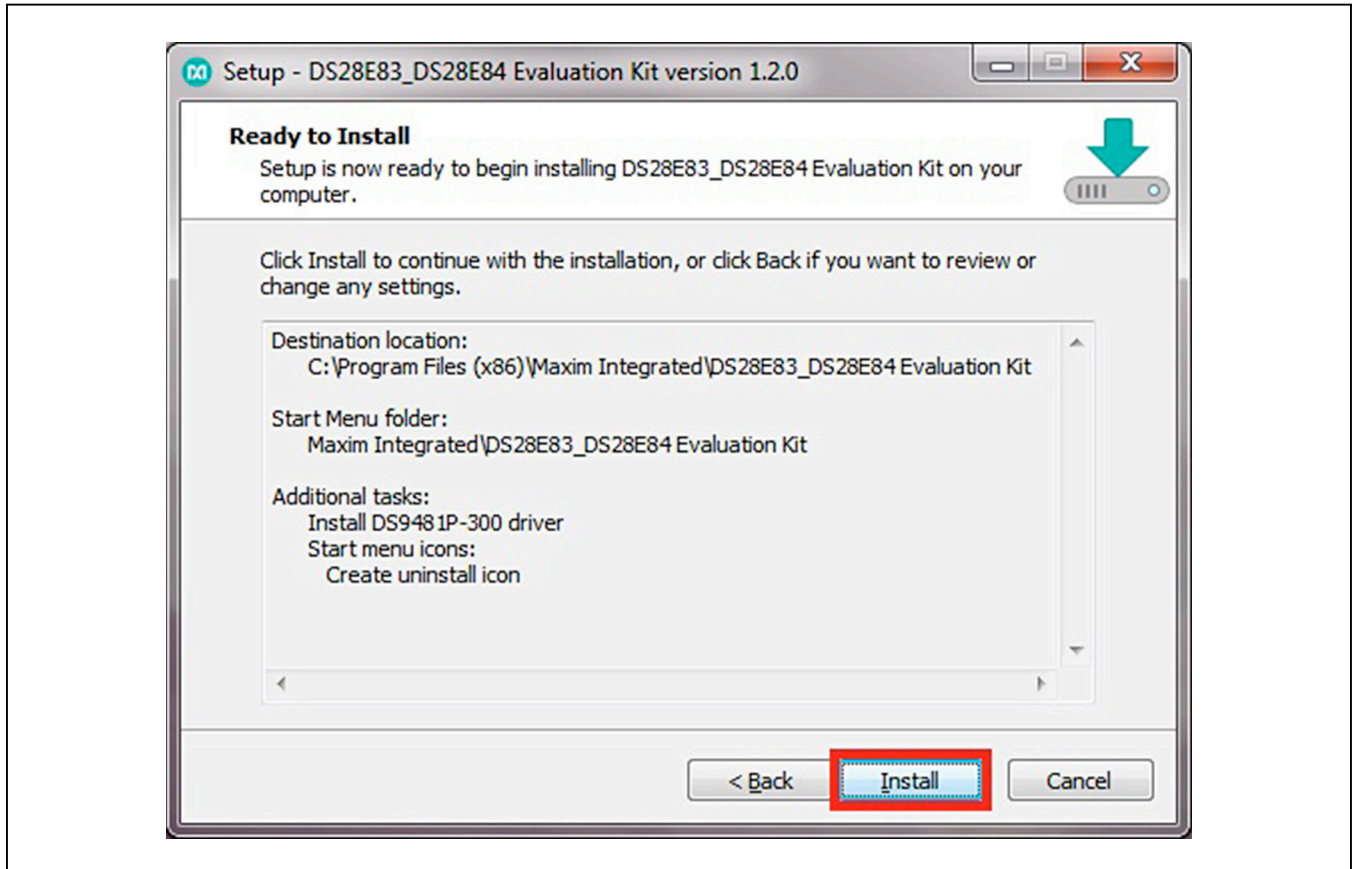

Figure 5. Ready to Install
7) Next click on **Install**. A new window pops up to show the installing progression (Figure 5).